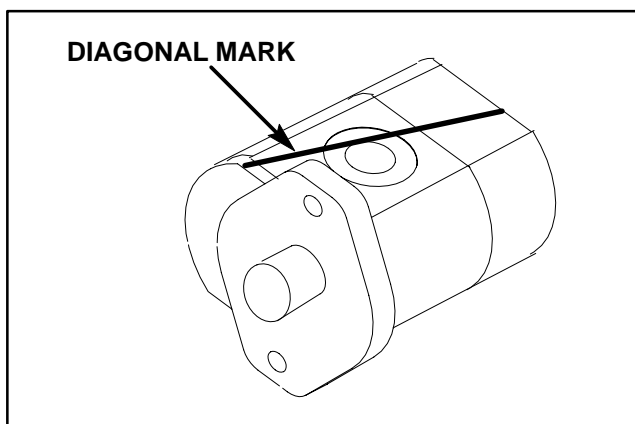

Figure 18c
2. Use a marker or scribe to make a **diagonal** mark across the front flange, body, and rear cover for reassembly purposes (Fig. 18c).